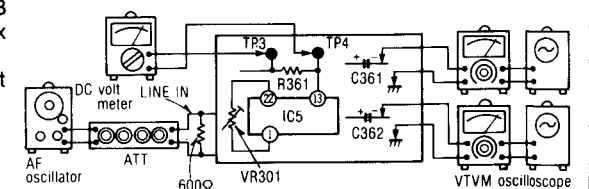

Fig. 20
1. Make the connections as shown in fig. 20 and apply 1 kHz -27dB signal from LINE IN, and set the noise reduction selector to dbx tape position.